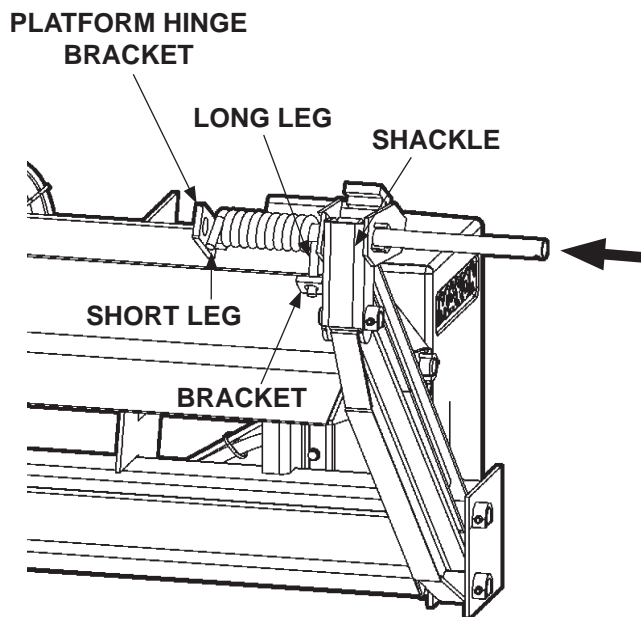

FIG. 20-2
4. Install the torsion spring as shown in **FIG. 20-2**. Make sure the long leg of the spring is inserted in the bracket located on the shackle. Make sure the short end of the spring is visible, as shown in **FIG. 20-2**.